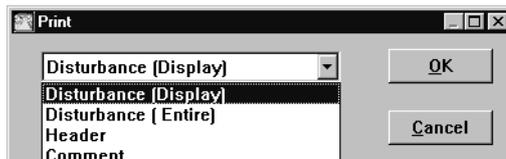

Fig. 10 The print dialogue box.
- 2 The print dialogue box is presented in which you select which part of the disturbance you want to print, see Fig. 10.